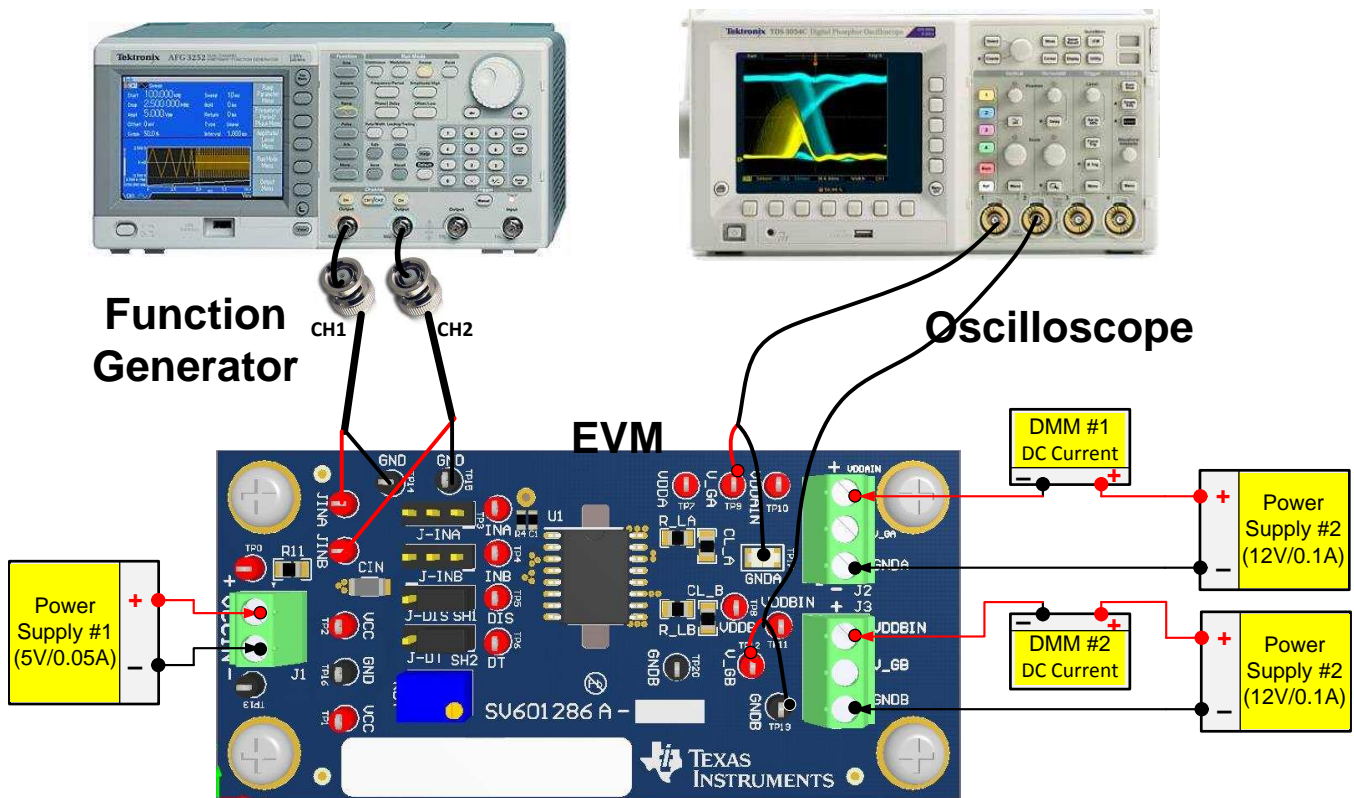

Figure 2. Bench Setup Diagram and Configuration
Follow the connection procedure below and use Figure 2 as a reference:
- Function generator channel-A channel applied on JINA ↔ TP14 as seen in Figure 2;
- Function generator channel-B channel applied on JINB ↔ TP15 as seen in Figure 2. For the UCC20520EVM, JINB, J-INB and TP15 are not installed because the UCC20520 is a single PWM input, dual-channel output Iso-Driver;